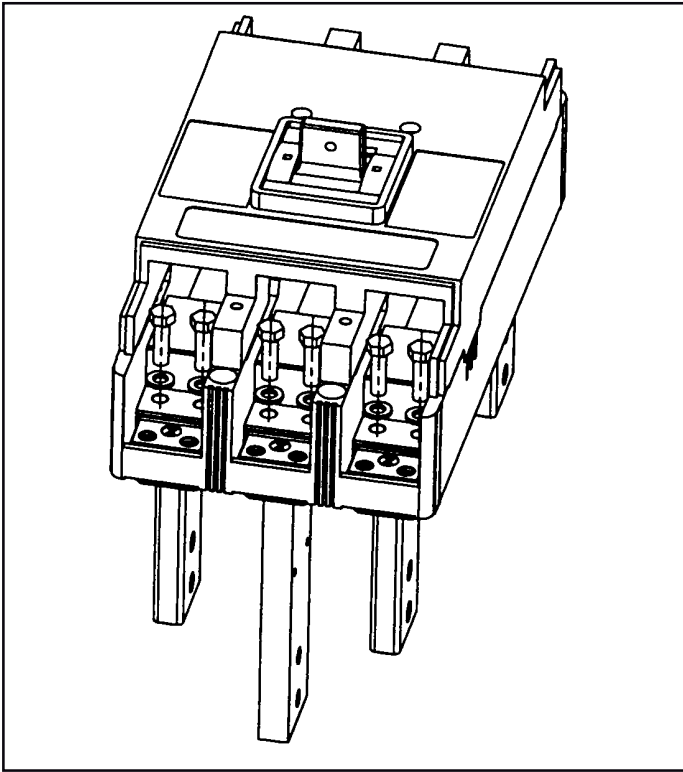

Figure 2-3. 1600 Amp Rear Connector Installation (Connectors, Barriers and Hardware Included).
- b. Install the rear connectors to the line and load side of the circuit breaker (Figure 2-3). Do not fully torque the bolts until after the barriers are positioned correctly. On three pole breakers the longer connectors are on the center phase. On four pole breakers, short and long connectors should alternate on adjacent phases.